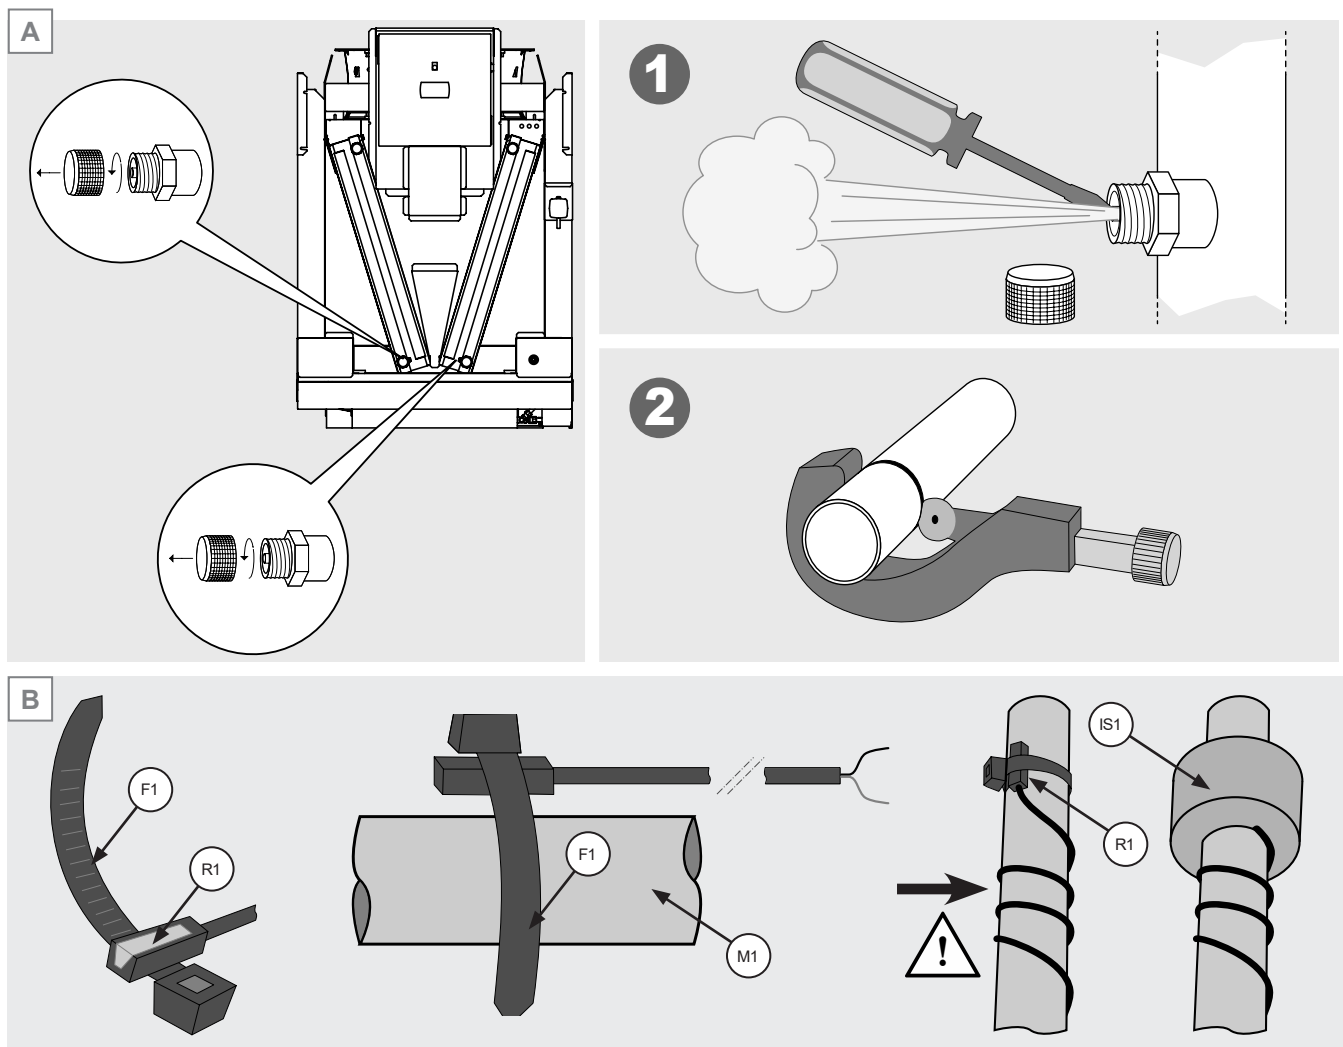

Figure 10
- 6.13 For AVK condensers and AVS gas coolers, discharge the pre-charge pressure (approx. 29 psi) from the heat exchanger before cutting the inlet and/or outlet sleeves. See Figure 10 A.
- 6.14 For gas cooler models only: it is the customer's responsibility to install the temperature probes on the heat exchanger outlet sleeves. The probes consist of a clamp (F1) which supports the detector (R1): the clamp must be fixed to the sleeve (M1) and the electrical cable (C1) must be wound with 2 coils on the tube itself. Thermally insulate the probe with the appropriate insulation (IS1). See Figure 10 B.